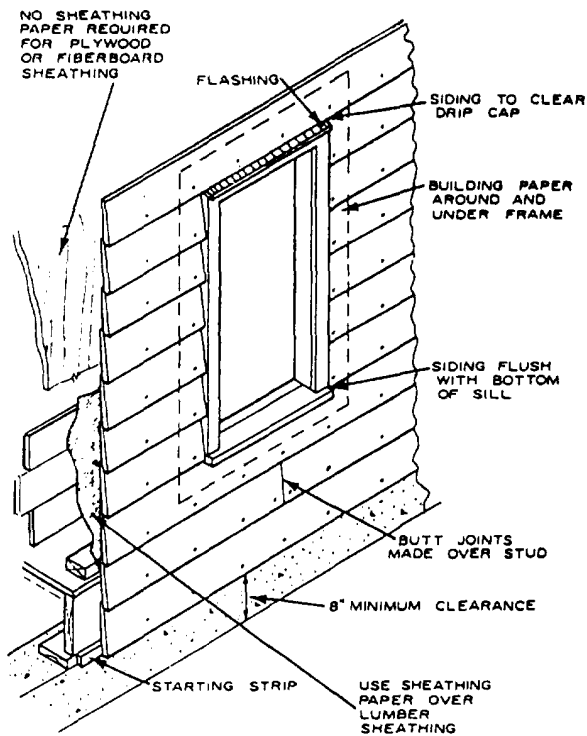

Figure 4-3. Installation of bevel siding.
The minimum lap for bevel siding is 1 inch. The average exposure distance is usually determined by the distance from the underside of the window sill to the top of the drip cap (fig. 4-3). From the standpoint of weather resistance and appearance, the butt edge of the first course of siding above the window should coincide with the top of the window drip cap. In many one-story structures with an overhang, this course of siding is often replaced with a frieze board. It is also desirable that the bottom of a siding course be flush with the underside of the window sill. However, this may not always be possible because of varying window heights and types that might be used in a structure.
2. Determine the exposure distance from the bottom of the sill to just below the top of the foundation wall. If this distance is 31 inches, use three courses of $10 \frac{1}{3}$ inches each. Thus, the exposure distance above and below the window would be almost the same (fig. 4-3).
Siding may be installed starting with a bottom course. It is normally blocked out with a starting strip the same thickness as the top of the siding board (fig. 4-3). Each succeeding course overlaps the upper edge of the course below it. Siding should be nailed to each stud or on 16-inch centers. When plywood, wood sheathing, or spaced wood nailing strips are used over nonwood sheathing, 7d or 8d nails may be used for 3/4-inch-thick siding. However, if gypsum or fiberboard sheathing is used, 10d nails are recommended to properly penetrate the stud. For 1/2-inch-thick siding, nails may be 1/4 inch shorter than those used for 3/4-inch siding.